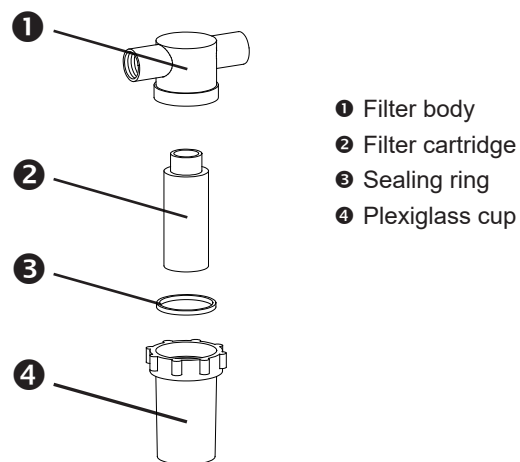

Fig. 6. Water filter
- Unscrew Plexiglass cup (4, fig. 6) from filter body (1, fig. 6) by turning anti-clockwise.
- Extract filter cartridge (2, fig. 6) and replace by new one (Art.No. 502.0891.0).